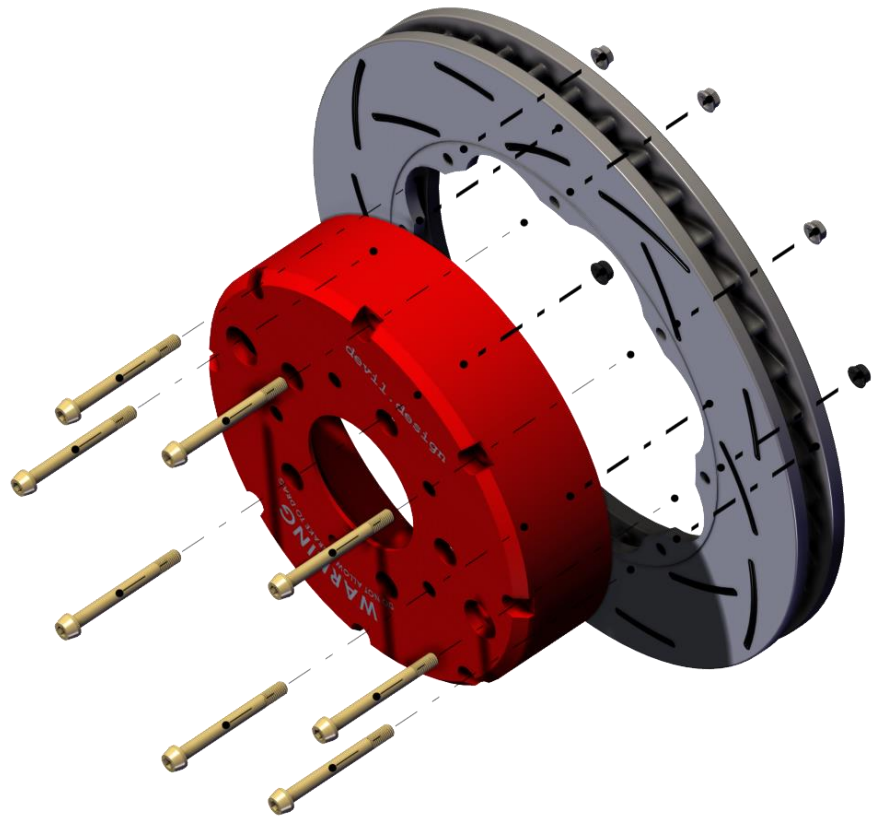

Figure 2 Assembly Arrangement - Front View
2. Assemble the MS20004-30 bolts through the hat so that the bolt head is on the hat side as per Figure 2 Assembly Arrangement - Front View.